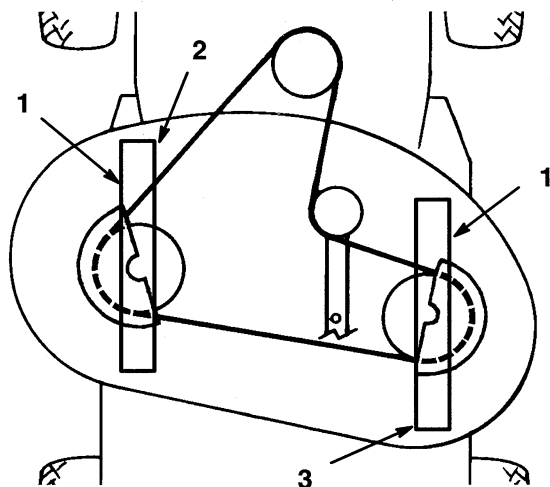

Figure 12
4. Carefully rotate blades so they are facing front and rear (Fig. 12).
5. Measure between the tip of the front blade (Fig. 12). and the tip of the rear blade to the flat surface. If the front blade tip is not 0–1/8" (0–3.2 mm) lower than the rear blade tip adjust front adjustment link.